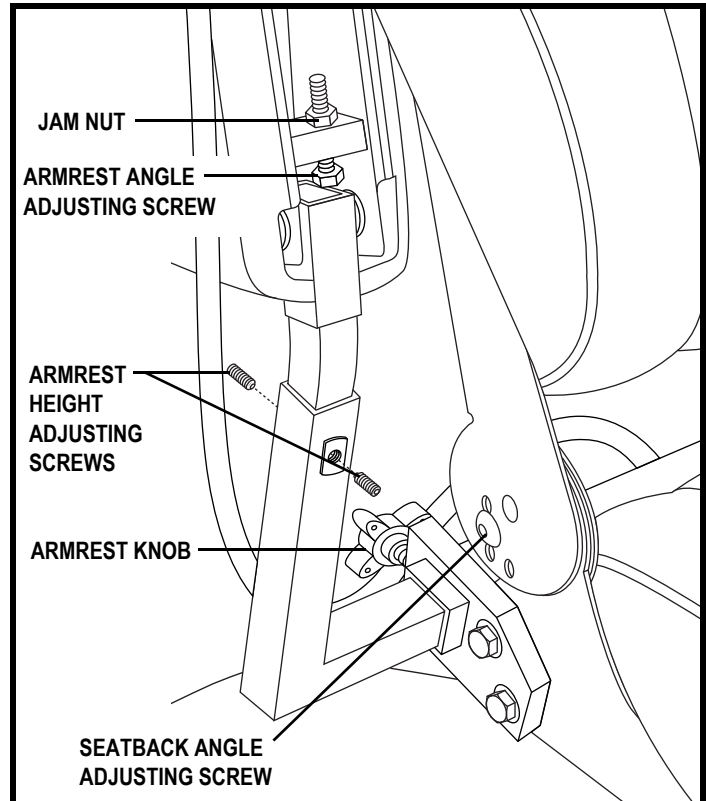

Figure 17. Seatback Angle Adjustment
1. Remove the adjusting screws from each seat hinge. **See figure 17.**
1. Locate the two armrest knobs on each side of the armrest receiver bracket. **See figure 17.**
1. Loosen the two setscrews located on the armrest receiver. **See figure 17.**
1. Lift the armrest straight up so that it is perpendicular to the floor. **See figure 17.**